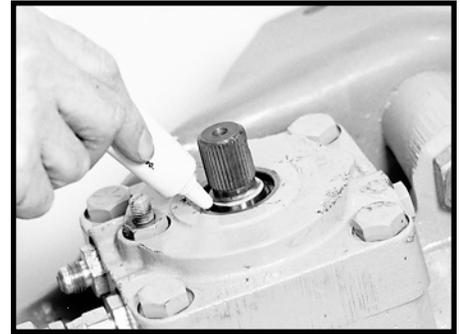

Figure 30
2.8 Pack the area around the worm shaft/input shaft (16) and dirt and water seal (4) cavity with high temperature industrial grease per Ross specification 045231, \*Mobil Temp 1 or 2 or equivalent. SEE FIGURE 30.